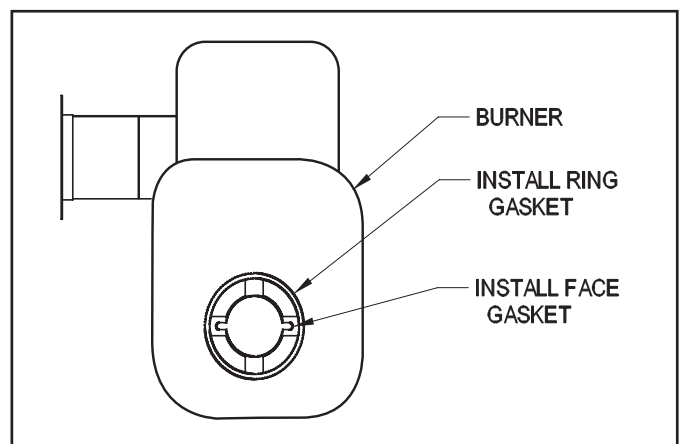

Figure 2
4. Install the sealing gaskets onto the burner housing. (See Figure 2)